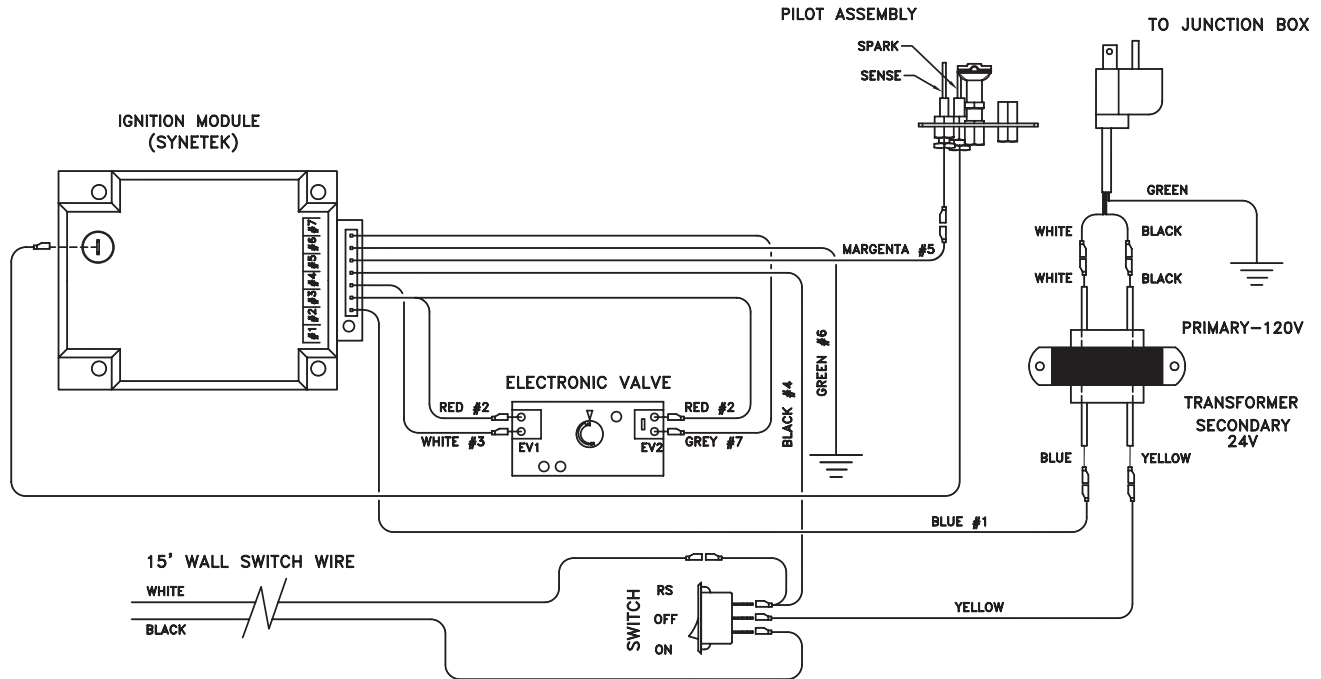

Figure 39 - Remote Wall Switch Wiring Diagram
2. Connect the wire terminal from the remote receiver. This replaces the 15' wall switch connection to the switch. *Figure 39*.